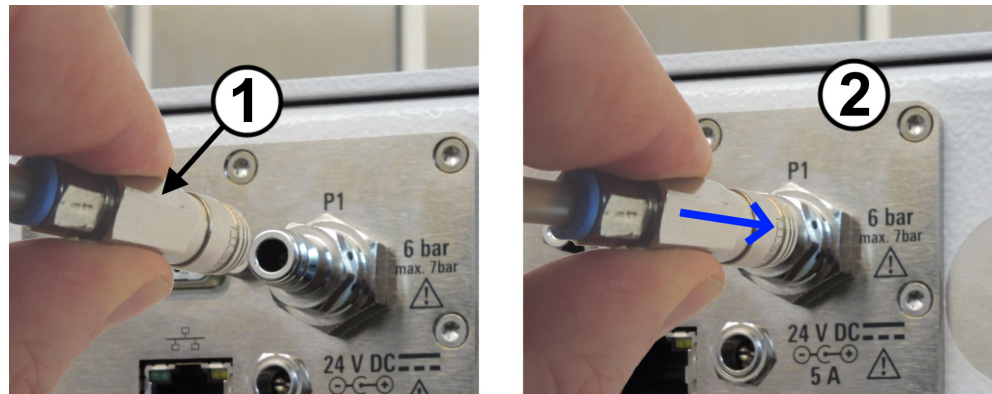

Figure 6-5: Connecting the compressed-air supply
To do so, hold the adapter at its rear part (see 1 in Figure 6-5) and push it onto the quick-coupling plug (2).